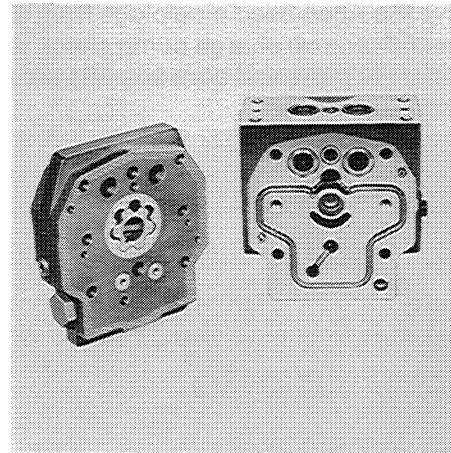

Figure 6 - Valve Plate and Transfer Block
4. Separate valve plate from transfer block by tapping top and bottom of valve plate with a soft hammer, Figure 6. **DO NOT** pry apart as damage to machined surfaces could result.